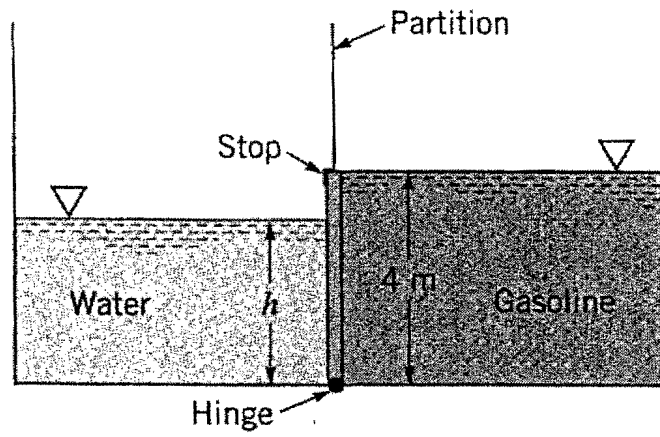

Fig. 1
3. A vertical partition is erected in an open tank (Fig. 1). A rectangular gate which is 4 m high and 2 m wide and hinged at the lower end is located in the partition. The tank consists of, on one side of the partition, gasoline with a density $\rho = 700 \text{ kg/m}^3$ at a depth of 4 m. On the other side of the tank, water is slowly added. At what depth, h , will the gate start to open? [20 marks]